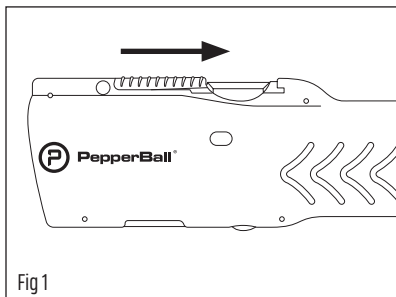

Fig 1
1. **PLACE THE LIFELITE™ IN SAFE MODE** - Slide the safety towards the rear of the launcher until it is fully covering the trigger. (Fig 1)